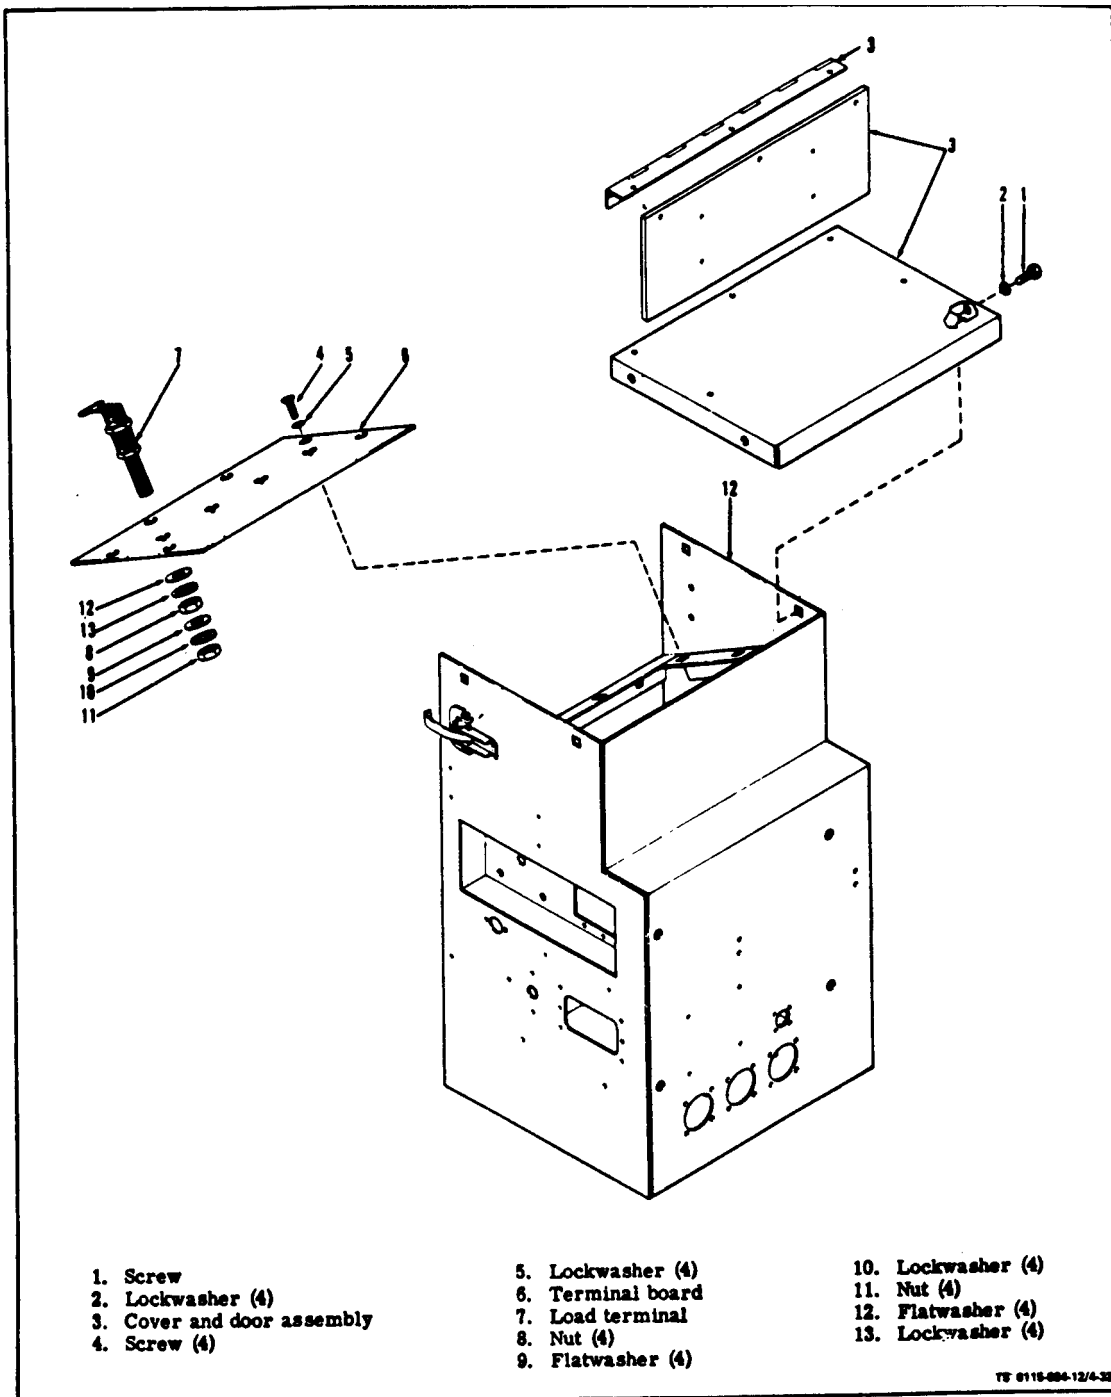

Figure 4-32. Load Terminal Board Assembly
a. Load Terminal Removal (see figure 4-32).
- (1) Unlatch door (3).
- (2) Remove screws (1), lockwasher (2), and cover and door assembly (3).
- (3) Remove screws (4) and lockwasher (5).
- (4) Carefully lift terminal board (6) and tag and disconnect leads from load terminals (7) by removing nut (11), lockwasher (10) and flatwasher (9).
- (5) Remove load terminal (7) from terminal board (6) by removing nut (8), flatwasher (12) and lockwasher (13).
b. Load Terminal Installation (see figure 4-32).
- (1) Install load terminal (7) to terminal board (6) by installing lockwasher (13), flatwasher (12) and nut (8).
- (2) Connect leads to terminals (7) by installing flatwashers (9), lockwashers (10) and nut (11).
- (3) Install lockwashers (5) and screws (4).
- (4) Install door assembly (3), lockwashers (2) and screws(1).
(5) Latch door.